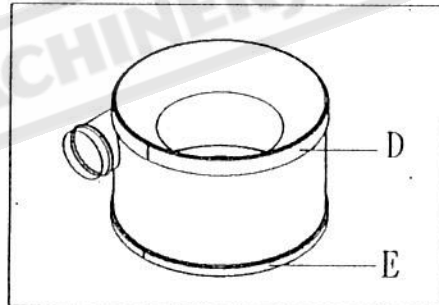

FIG. 3
Stick the Foam (D) on the top of collector and stick Foam (E) on the bottom of collector. Please see figure 3.